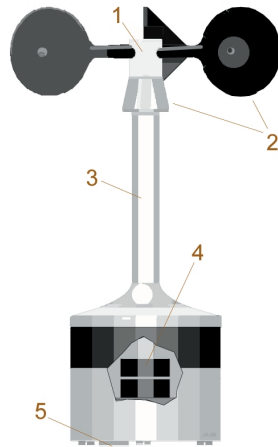

Figure 2. Main properties and operating principles of the WAA252 Heated Anemometer
- There is no further need for a separate temperature sensor with complicated wiring in the junction box. Now the gauge has an integral ambient temperature sensor located on the bottom of the device (see Figure 2), inside a special metal button elastically attached to the bottom plate. Hence, it is automatically forced into good thermal contact with the sensor crossarm, after being tightened into place by the mounting screws.
The main properties and operating principles of the WAA252 Heated Anemometer are shown in Figure 2.